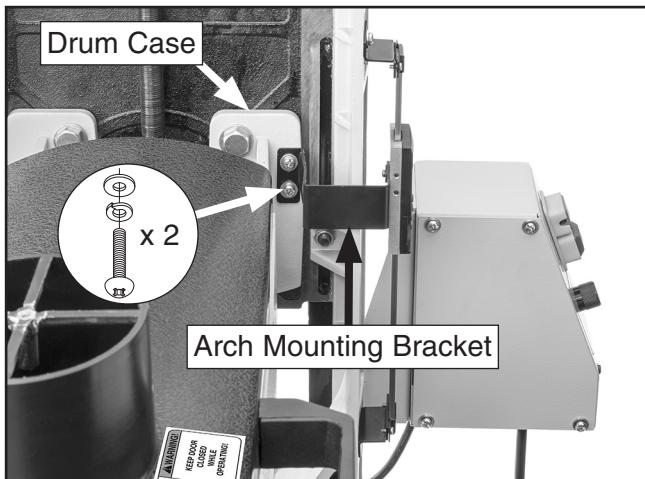

Figure 19. Arch mounting bracket attached to drum case.
- 18.** Attach arch mounting bracket to drum case with (2) M5-.8 x 8 Phillips head screws, 5mm lock washers, and 5mm flat washers (see **Figure 19**).